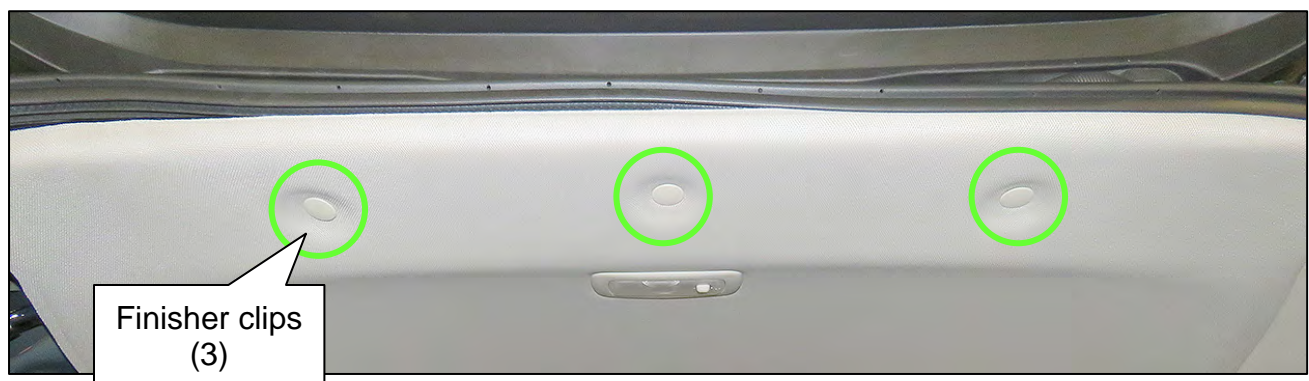

Figure 6
12. Remove the three (3) finisher clips that retain the rear of the headliner (Figure 6).